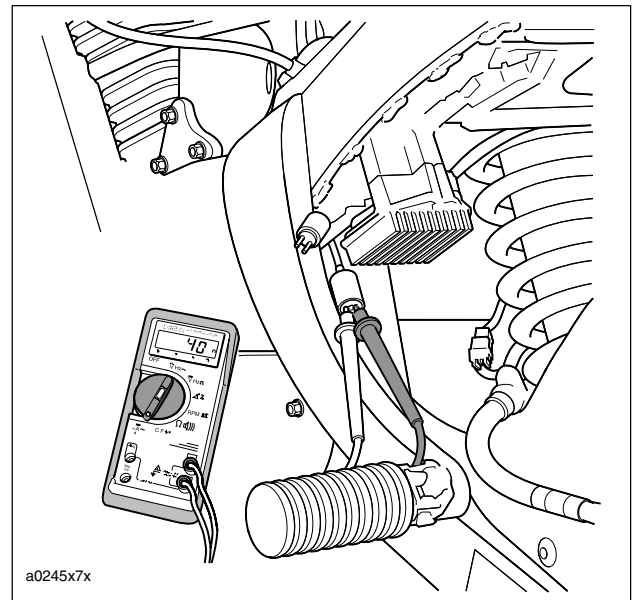

Figure 7-51. Check Stator AC Voltage Output
1. See Figure 7-51. Test AC output.